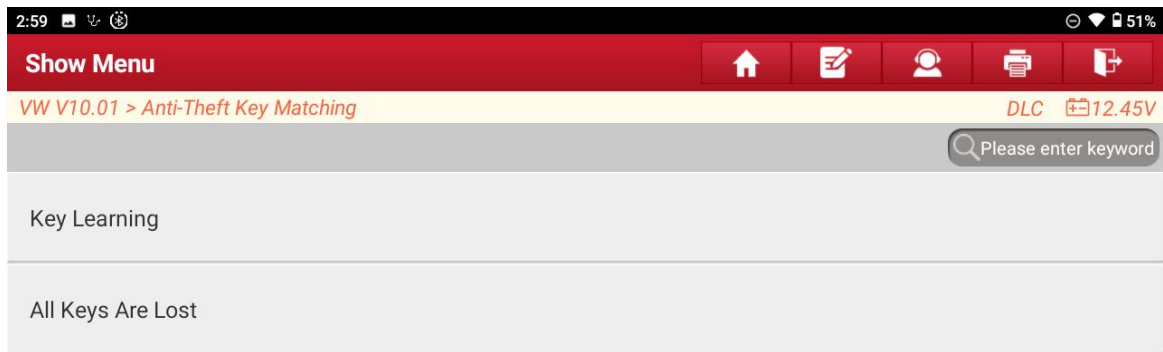

Figure 2
2. Choose [Key Learning], as shown in Figure 2.